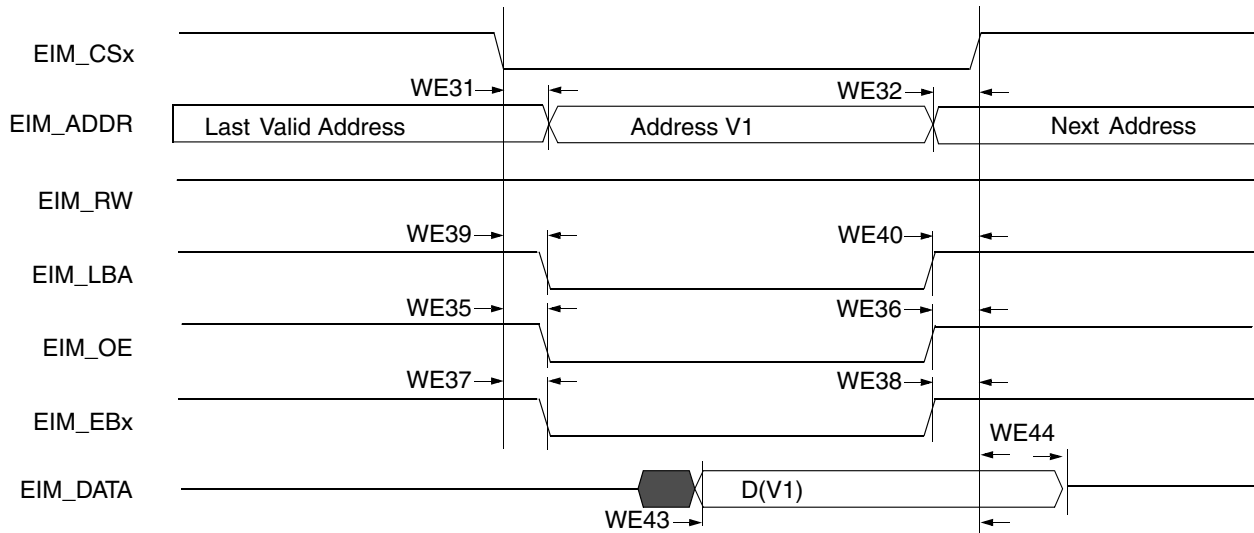
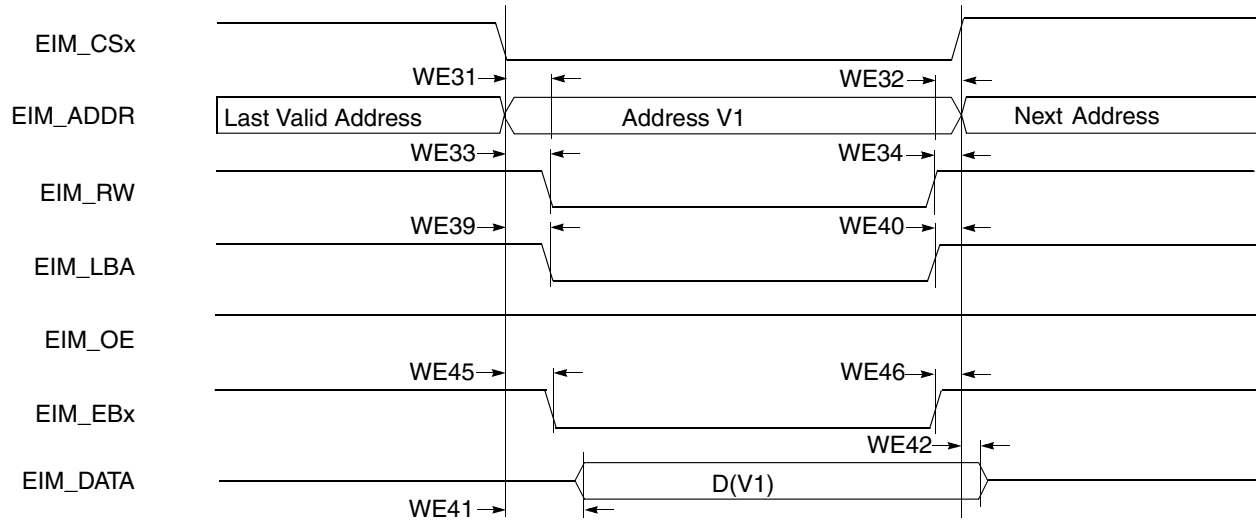
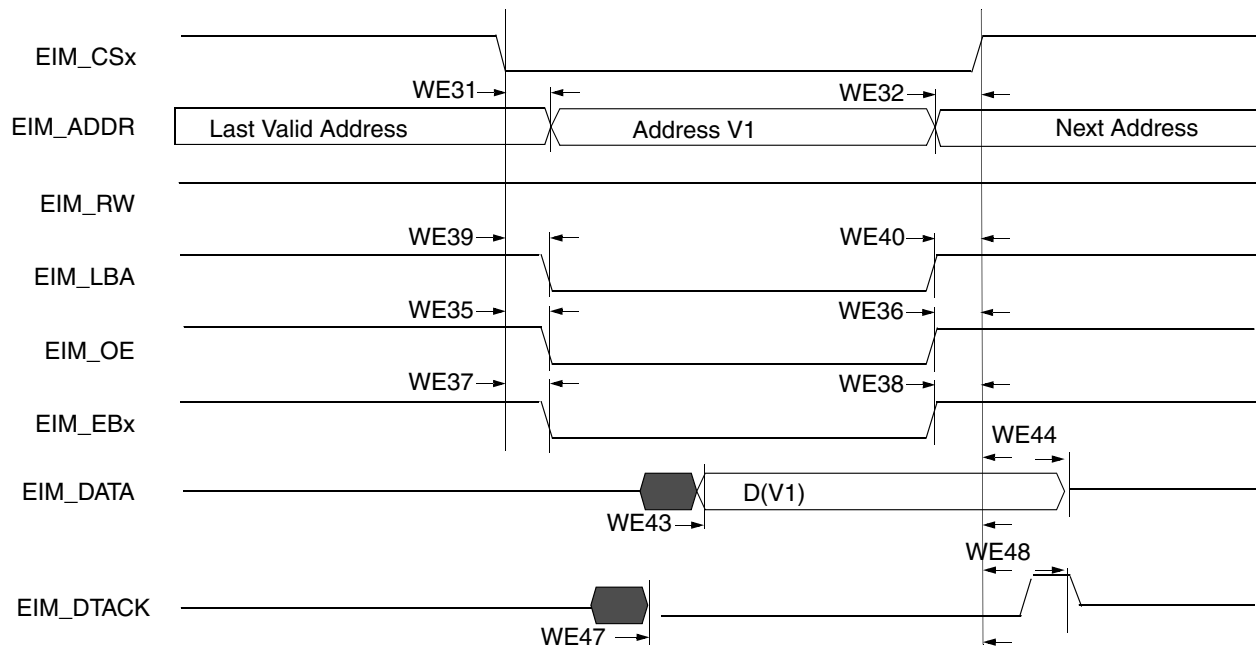

Figure 25. Asynchronous Memory Read Access
Figure 26. Asynchronous Memory Write Access
Figure 27. DTACK Read Access
Figure 25, Figure 26, Figure 27, and Table 41 help to determine timing parameters relative to the chip select (CS) state for asynchronous and DTACK EIM accesses with corresponding EIM bit fields and the timing parameters mentioned above.